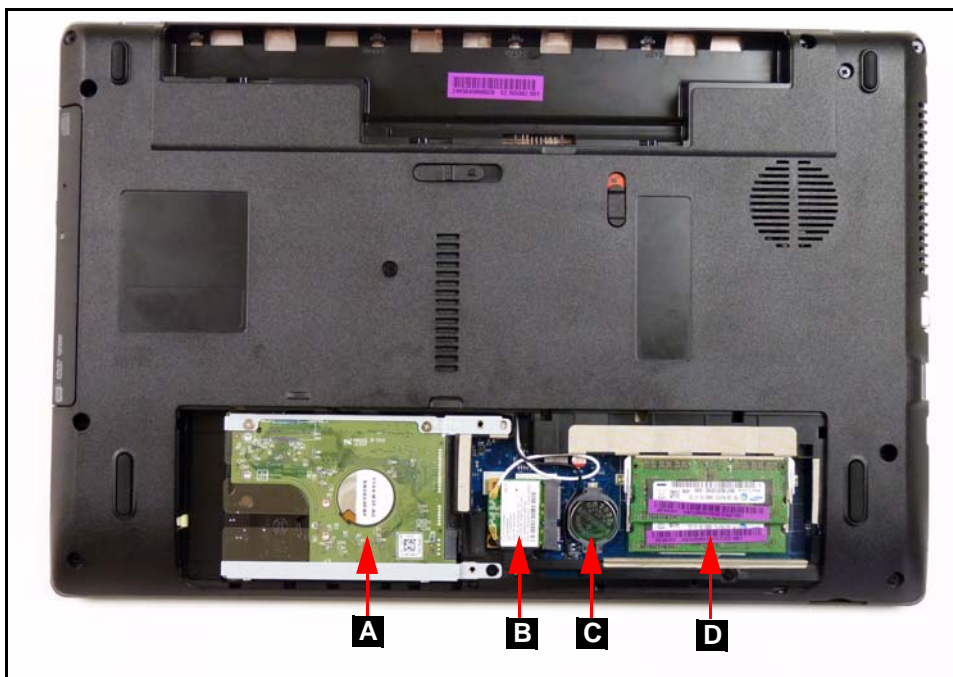

Figure 3-10. Component Location
1. Find DIMM (D) in the component bay. (Figure 3-10)
1. Find WLAN board (B) in the component bay. (Figure 3-10)
1. Find RTC (Real Time Clock) battery (C) on mainboard. (Figure 3-10)